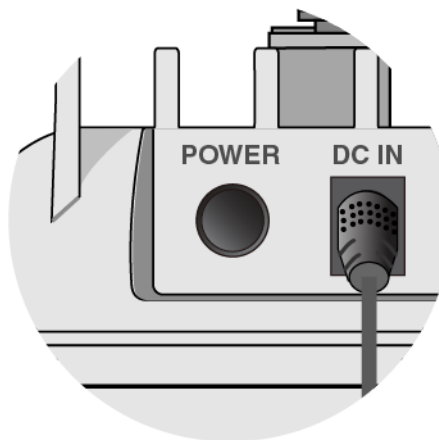

Figure 27. DC Power On/Off Button
4. Push the DC Power On/Off Button on the wireless access point to the “IN” position to turn on the DC connector. Refer to Figure 27.